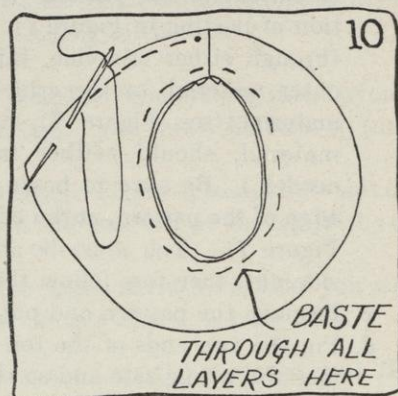

FIG. 10.
- Baste right through the brim very close to the edge in order to keep the seam in position and so that the edge will be even looking (see Figure 10).
- Baste through all of the layers of material on the basting already at the headsize (see Figure 10). Be sure to keep all the layers of material perfectly smooth.